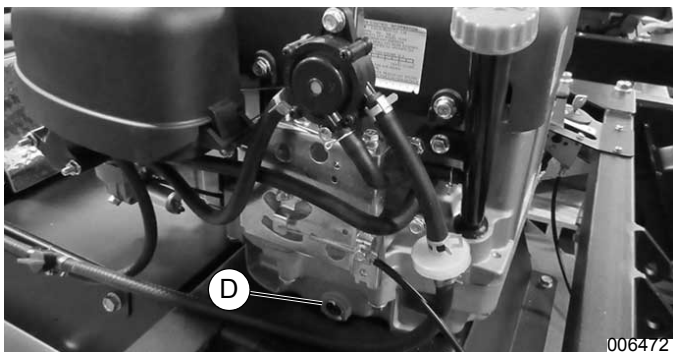

Figure 4-2. Oil Drain
1. See Figure 4-2. Place an approved oil container near oil drain (D).